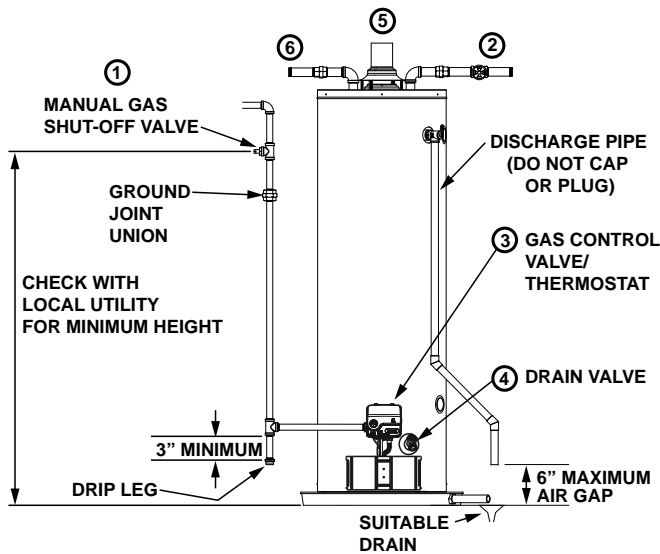

FIGURE 2.
If the main gas line shutoff valve serving all gas appliances is used, also shut "OFF" the gas at each appliance. Leave all gas appliances shut "OFF" until the water heater installation is completed. See Figures 2 and 3.
2. Turn "OFF" the water supply to the water heater at the water shut off valve or water meter. Some installations require that the water be turned off to the entire house. See Figures 2 and 4.
4. Open a nearby hot water faucet and leave it open to allow for draining. Allow the hot water to run until water flowing from the faucet is 100° F or less. Connect a hose to the drain valve and terminate to an adequate drain or outdoors. (Make sure all connections are tight and that the water flow is directed away from people.) Open the drain valve and allow the tank to drain. (See Figures 2 and 5.)